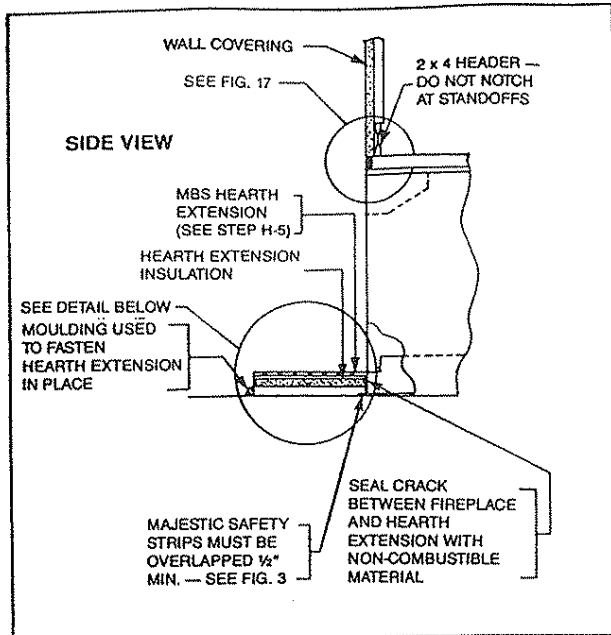

Fig. 22. Sealing detail.
Framing should be positioned to accommodate wall covering and fireplace facing material. (See Figs. 22 and 23 for typical arrangements.) Standoff nailing tabs provided on the top of the fireplace can be used to position the fireplace for a 5/8" finished wall covering, as well as anchor the fireplace. Nail through the tabs (4) into the horizontal framing members. (See Figs. 4 and 16.)
Secure the hearth extension to the floor to prevent shifting, using trim molding or other similar means at the three (3) outer edges. Seal the crack between the fireplace hearth and the hearth extension with a non-combustible material. (See Figs. 22 and 23.)